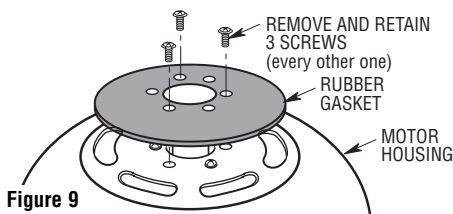

Figure 9
- 1. Remove and retain three screws from the top of the motor housing (Figure 9).
- 2. Position the rubber gasket (supplied in parts bag) on the motor housing (small holes in gasket centered over the screw holes in the housing) Figure 9.